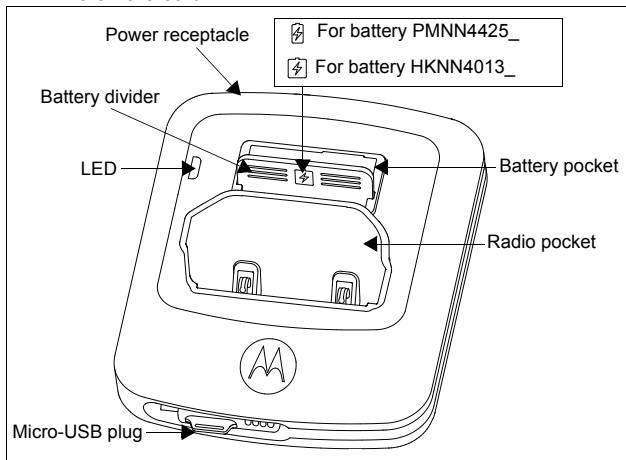

Figure 1: Tri-Unit Charger
- a. Pull out and turn the battery divider according to type of battery to charge, slide it back into the slot. (See Figure 1).